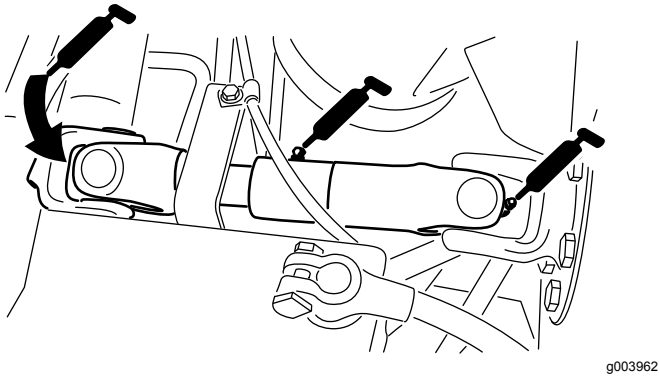

Figure 27
- Pump driveshaft U-joint (3)—Figure 27